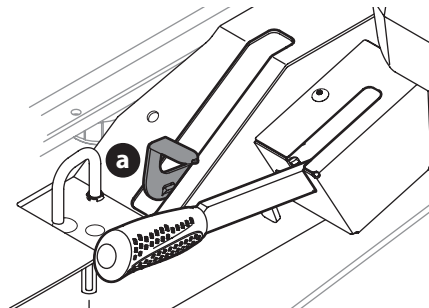

Figure 40
1. Engage the transmission bypass valves by pulling the bypass lever (a) upward and all the way back (Figure 40).
2. To release the bypass lever (a), push the lever forward (Figure 40).